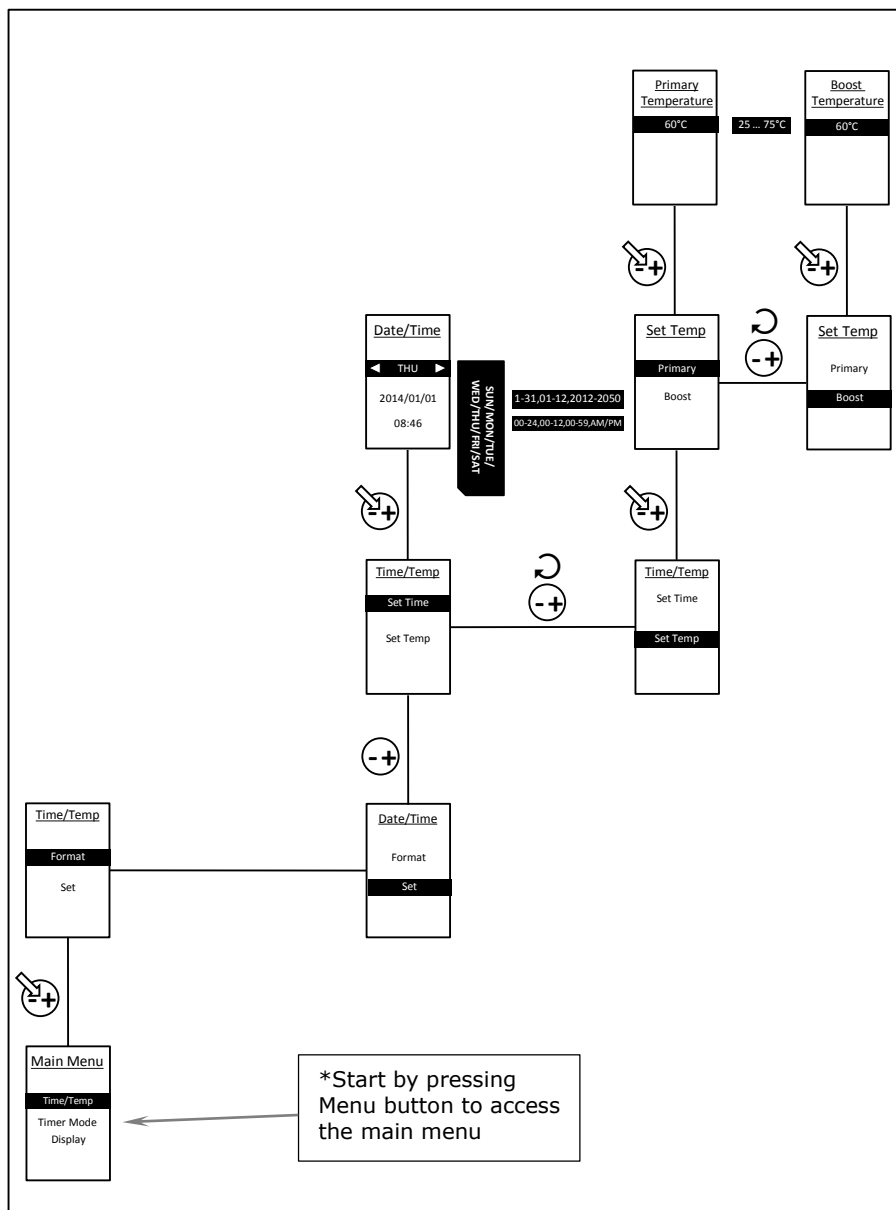

Figure 18: How to Set the Current Date, Time, Primary and Boost Temperature Set Point
- setting of date and time, primary and boost immersion heater set temperature (see Figure 18)